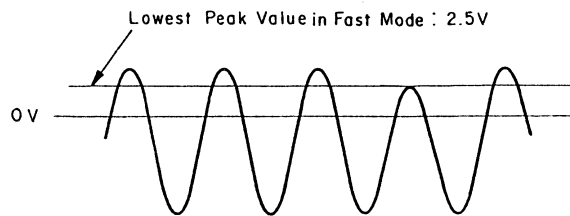

Fig. 4.7
- (d) Set the N-1000ZXL in Fast (F.F. or Rewind) mode, then adjust VR901 on the Detector P.C.B. Ass'y so that the lowest plus peak value of waveforms does not lower than 2.5 V DC as shown in Fig. 4.7.